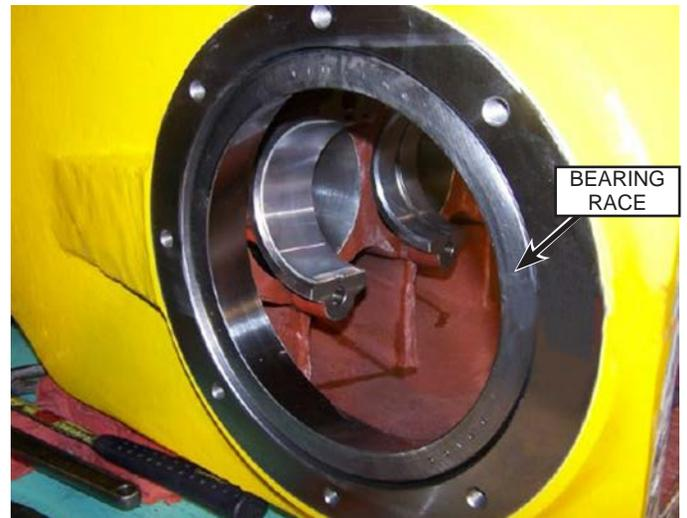

Fig. 158: Bearing Race Installation
- Install the outer bearing race (Fig. 158) into the power frame using a rubber mallet. Install the race so it is flush with the face of the case.